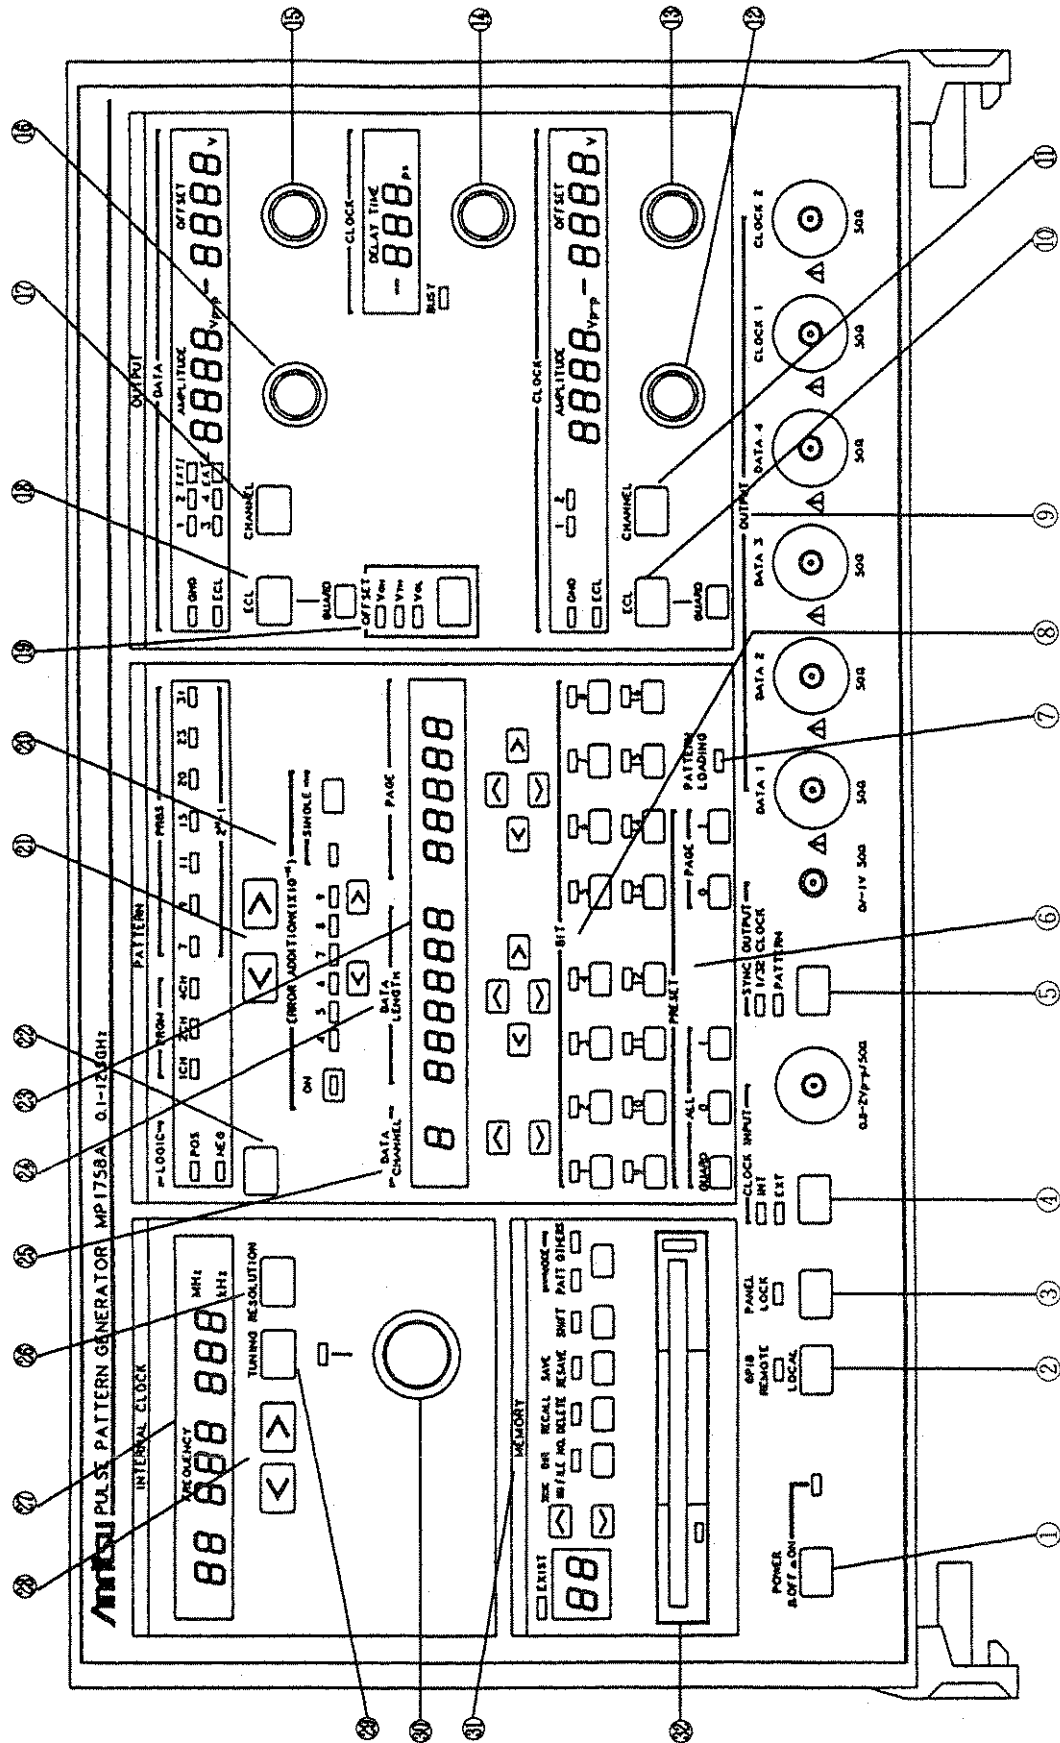

Fig. 3-1 Front Panel
3.1 Panel Controls (Figs. 3-1, 3-2 and Table 3-1)